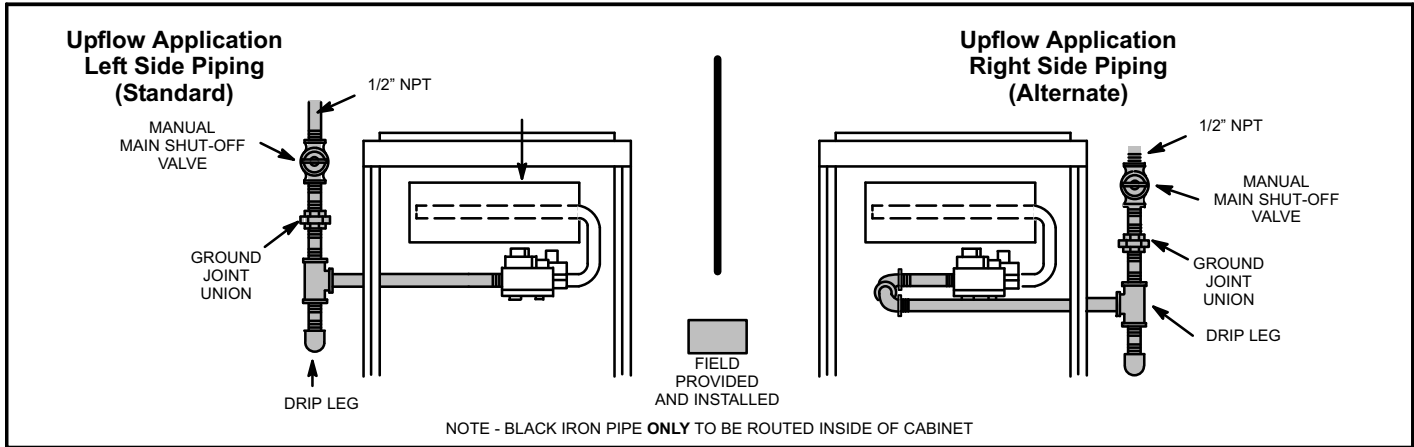

FIGURE 40
- 1 - Gas piping may be routed into the unit through either the left- or right-hand side in upflow applications, and either the top or bottom in horizontal applications. Supply piping enters into the gas valve from the side of the valve as shown in figures 40 and 41.
- 3 - Gas piping must not run in or through air ducts, clothes chutes, chimneys or gas vents, dumb waiters or elevator shafts. Center gas line through piping hole. Gas line should not touch side of unit. See figures 40 and 41.